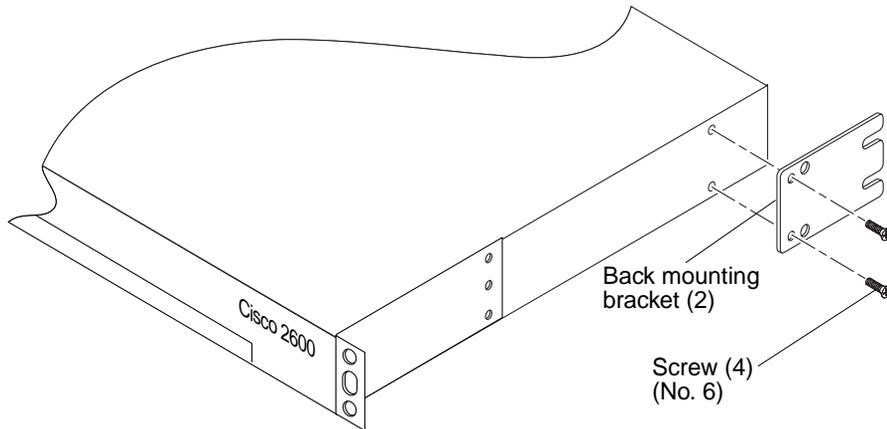

FIGURE 9-2 Removing and Replacing the Access Server Rear Bracket
8. Using a No. 2 Phillips screwdriver, remove the two screws securing each back mounting bracket from the access server (FIGURE 9-2).
3. Using a No. 2 Phillips screwdriver, install the two screws securing each back mounting bracket to the access server (FIGURE 9-2).